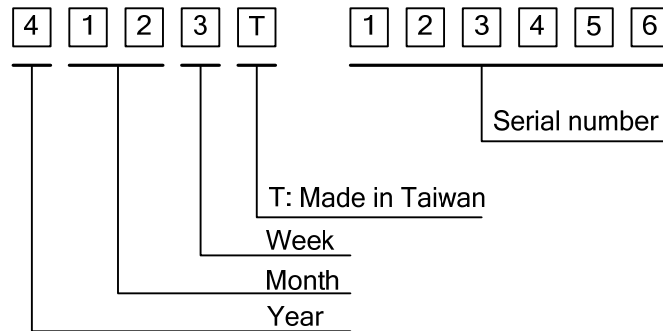

Fig 13.1
1) The lot mark is showing in Fig.13.1. First 4 digits are used to represent production lot, T represented made in Taiwan, and the last 6 digits are the serial number.